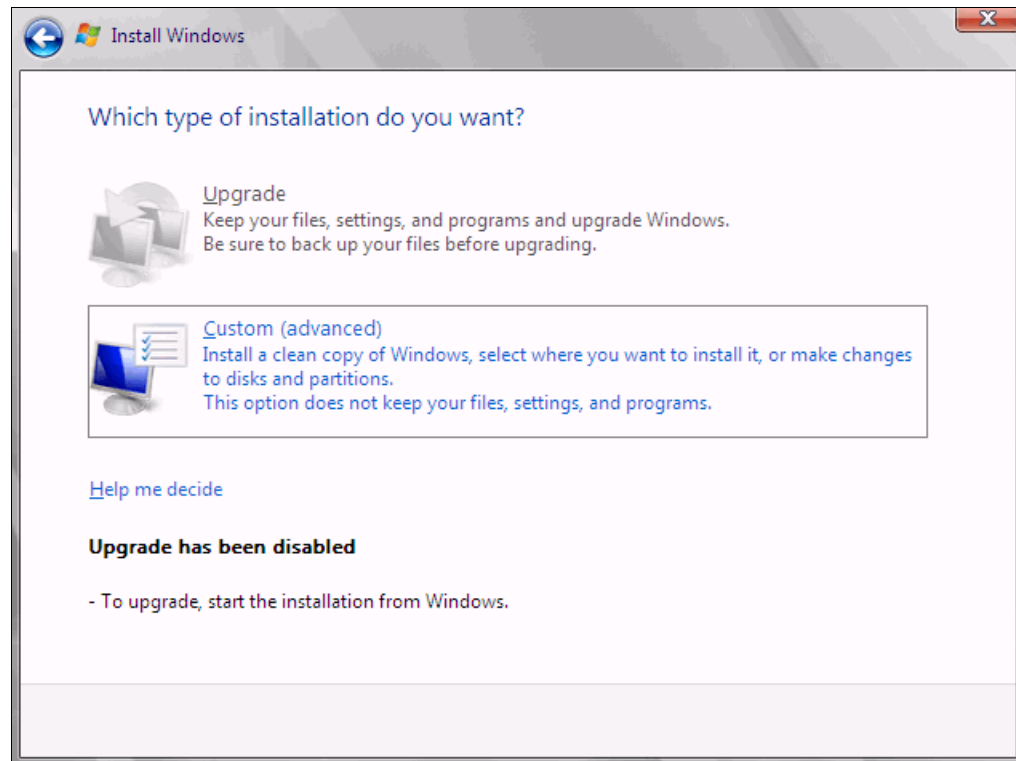

Figure 9-180 Selecting to install a clean copy of Windows
14. For the type of installation (Figure 9-180), select **Custom (advanced)** to install a clean copy of Windows. Then click **Next**.